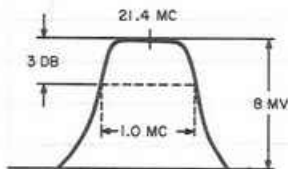

Figure 5-10. 21.4 mc Preampfier Response
- g. Adjust L1, L2, L3, and L4 located on the top of the preampfier subchassis for maximum symmetrical response centered around the 21.4 mc marker. The desired preampfier response characteristics are illustrated in Figure 5-10.